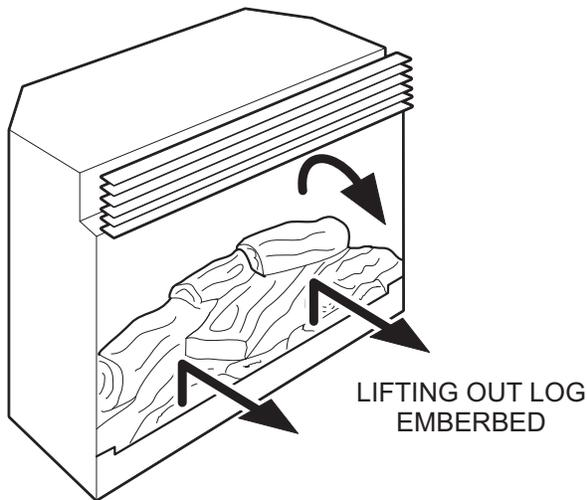

FIGURE 12
1. Lift up front edge of log until clears the front tabs. Pull out until the rear tab clears the back ledge, then lift out. (FIGURE 12)
5. Replace the log by pushing it down and in until it rests against the mirror. (FIGURE 12)
1. Replace the glass and hold it in place at top. (FIGURE 12)